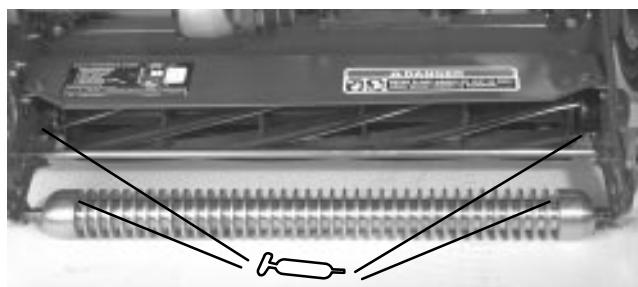

Figure 22
2. The grease fitting locations are: (2) on Front Roller (Fig. 22), (2) on reel bearings (Fig. 22), (2) on Drum Axles (Fig. 23), (3) on Differential (Fig. 23), (2) on Reel Countershaft Bearings (Fig. 24) and (2) on Belt Idler Pivot (Fig. 25).